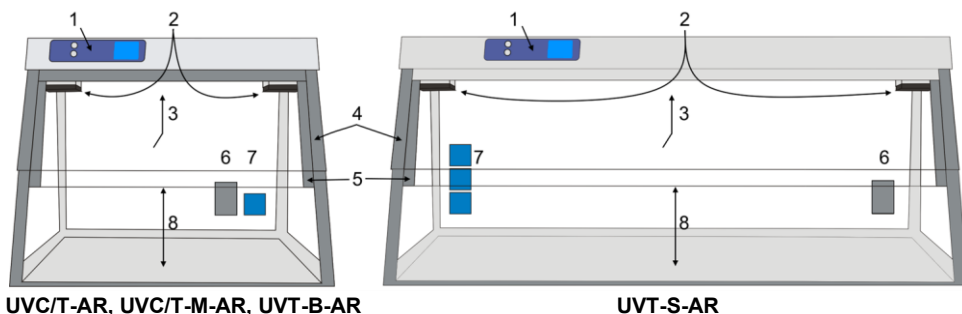

Figure 6. PCR cabinet, frontal view:
5.4.1. Lift the front protective screen (fig. 6/5) up for work in the box. Models have different maximum opening heights (fig. 6/8), as listed in the **Specifications** section, and may be raised to the following positions:
Note. Do not block the recirculator openings (fig. 6/2)!
5.4.2. To use electric devices inside the box, pull their power cable through the inlet and close the flap (fig. 6/6) or connect the power cable to a built-in mains socket (fig. 6/7, models with mains socket).